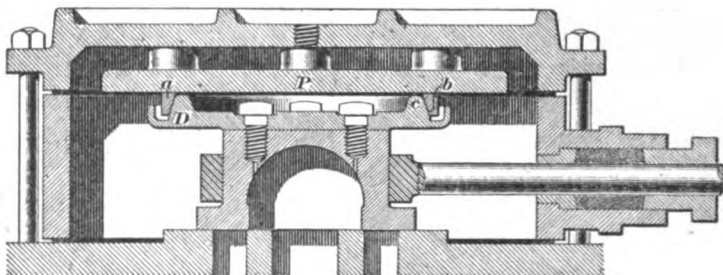

FIG. 54.
62. Another form of balanced valve, known as the **American balanced valve**, is shown in section in Fig. 54, while the valve disk and packing ring are shown in perspective in Fig. 55. *P* is the balance or bearing plate, against which the